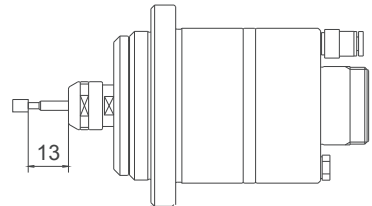

Fig. 10
- ② Do not exceed 24mm overhang for mounted grindstone O.D.  $\phi 6.0\text{mm}$  (See Fig.10 and Table 1.)